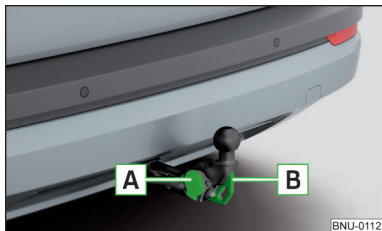

Fig. 299
- › Open the socket cap and insert the plug of the trailer (accessories) into the 13-pin socket **A** » Fig. 299. (If the trailer / accessories have a 7-pin connector, use a corresponding adapter from the ŠKODA Original Accessories).